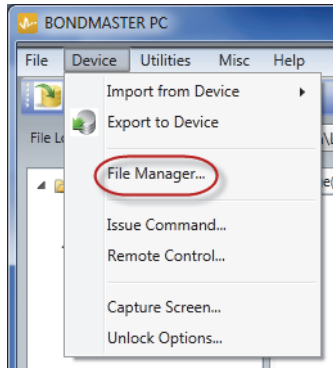

Figure 7-16 The File Manager command
- ◆ On the BondMaster PC software **Device** menu, select **File Manager** (see Figure 7-16 on page 205).